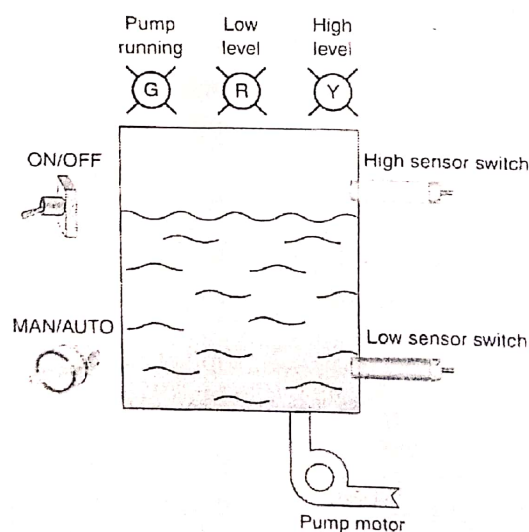

Figure 5: Water flow control
- c.) Write a program in ladder language to control the level of water in a storage tank shown in Figure 5 by turning a discharge pump on/off. The modes of operation are as follows: (8 marks)